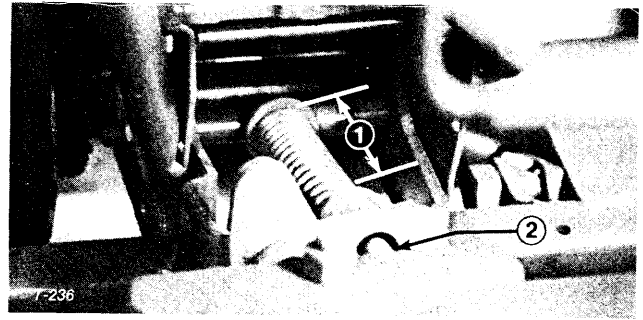

Figure 33
REAR COUNTERBALANCE SPRING — Turn adjusting nut (Fig. 33) counter-clockwise to release tension when disassembling counterbalance spring assembly.
The rear counterbalance spring length is factory set at 4-1/4 in. (10.8 cm), which is the measurement from washer to washer (Fig. 33). This measurement is usually adequate for most conditions. Should an adjustment be necessary, use the following procedures:
1. Turn adjusting nut counterclockwise to decrease spring tension (Fig. 33). Turn until both ends are equal in height.
1. Turn adjusting nut clockwise to increase spring tension (Fig. 33). Turn until both ends are equal in height.